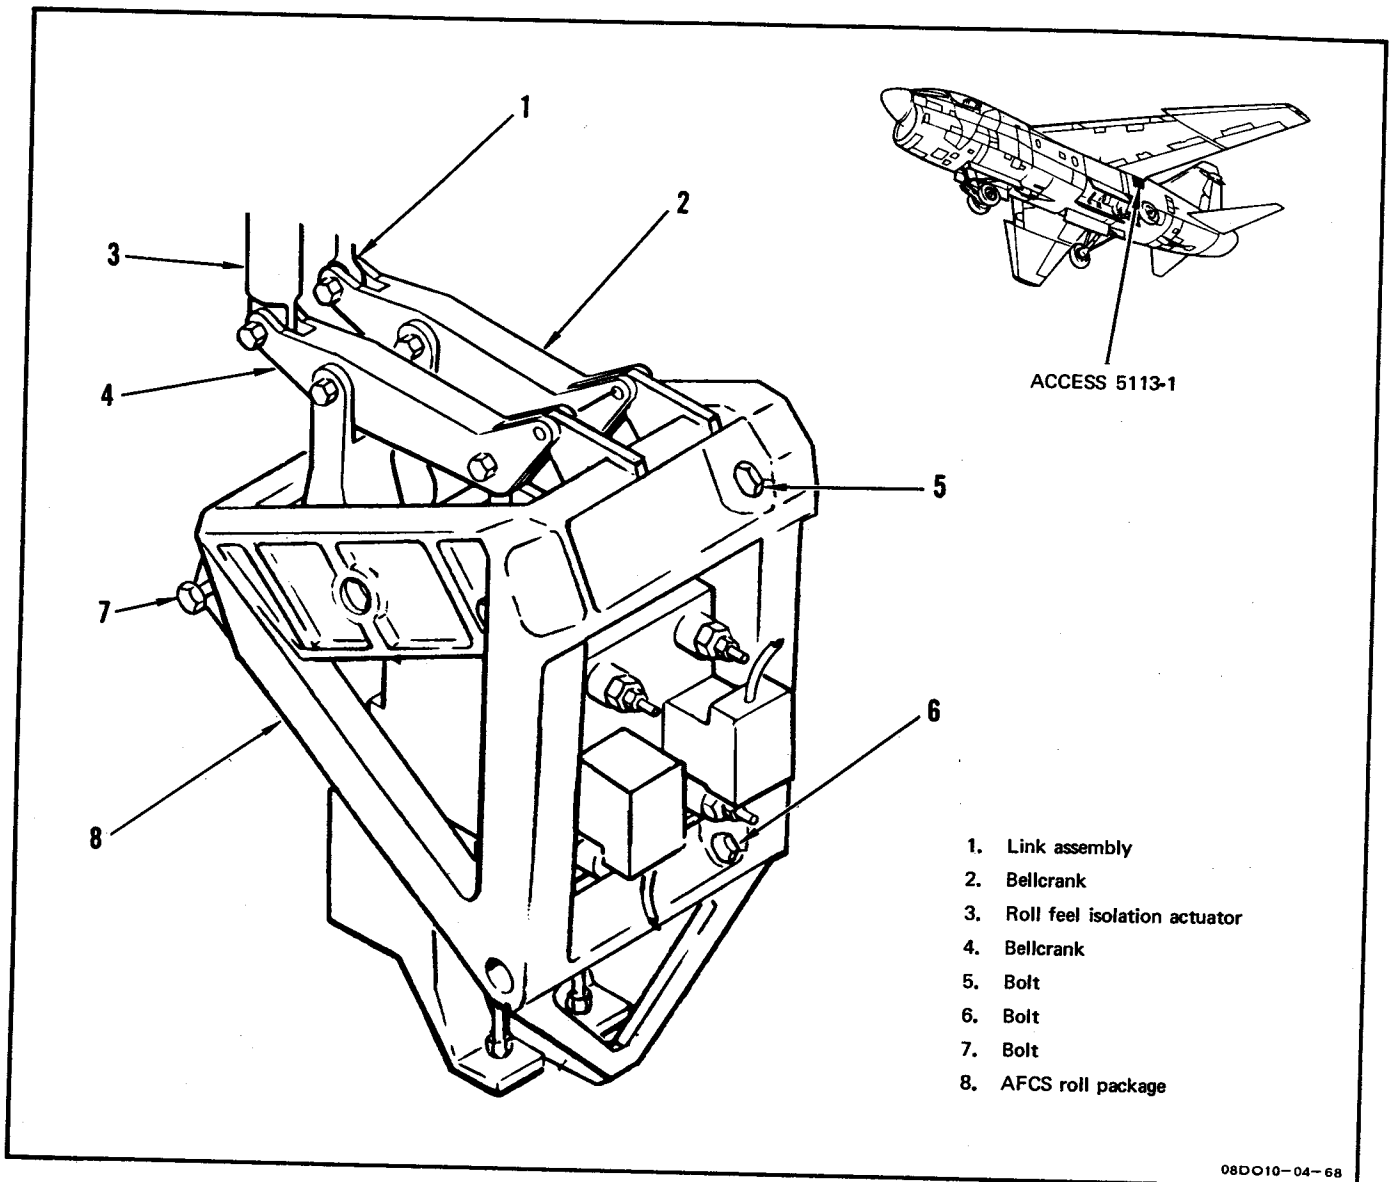

Figure 2-10. Roll AFCS Package Removal and Installation
**2-68. REMOVAL. (See figure 2-10.)**
- d. Remove self-retaining bolt (paragraph 2-95) attaching link assembly (1) to bellcrank (2).
- e. Remove self-retaining bolt attaching roll feel isolation actuator (3) to bellcrank (4).
- g. Remove AFCS roll package (8) from airplane.
**2-69. INSTALLATION. (See figure 2-10.)**
- c. Insert bolt (7) in AFCS roll package and position package in airplane.
- d. Tilt package to gain access and start bolt (7) by hand.